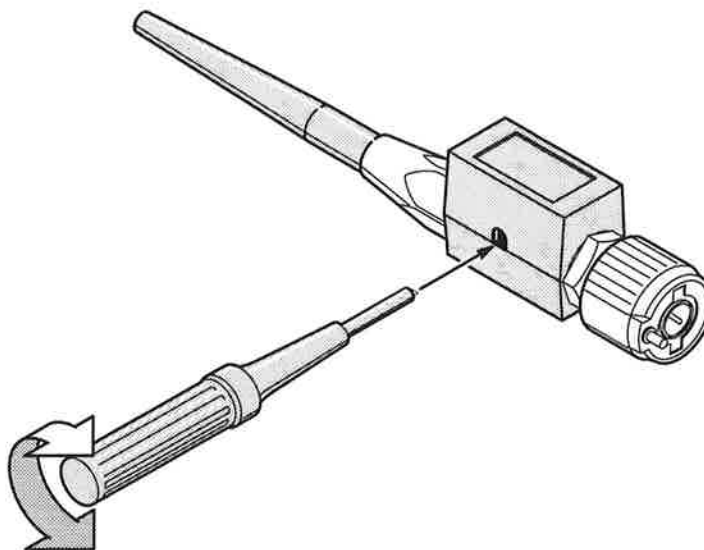

Figure 3-42: P6139A Probe Adjustment
6. Adjust the probe until you see a perfectly flat top square wave on the display. Figure 3-42 shows where the adjustment is located.